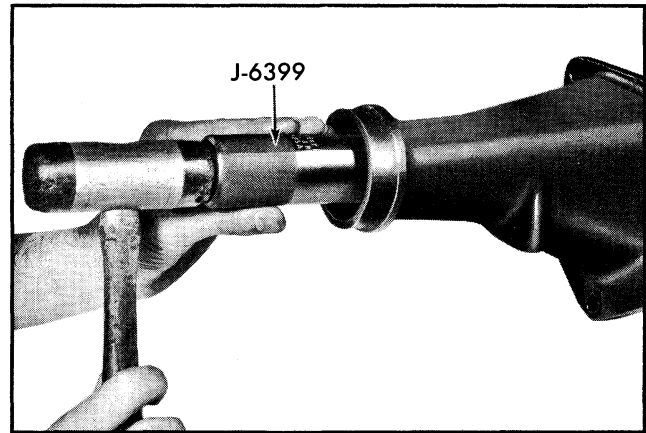

Fig. 7-26 Removing or Installing Bushing with J-6399
2. Using tool J-6399, drive bushing from rear into case extension (Fig. 7-26).
1. Using tool J-6399, drive bushing, from rear of transmission, until end of bushing is slightly below counterbore for oil seal (Fig. 7-26). Coat I.D. of bushing with transmission oil.